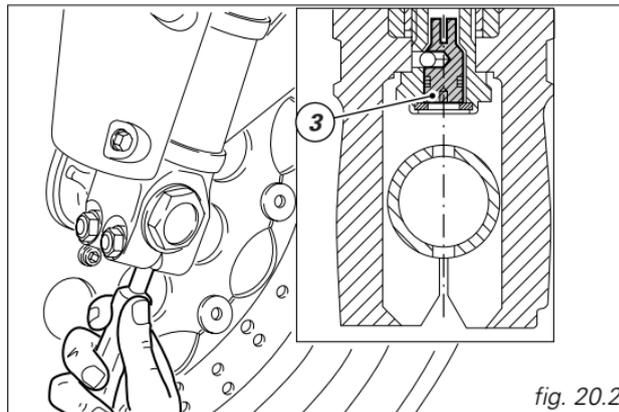

fig. 20.2
- 3) (fig. 20.2) to adjust compression damping.
To reach the adjuster (3, fig. 20.2), insert a screwdriver into the passing hole on the wheel spindle at fork leg axis.